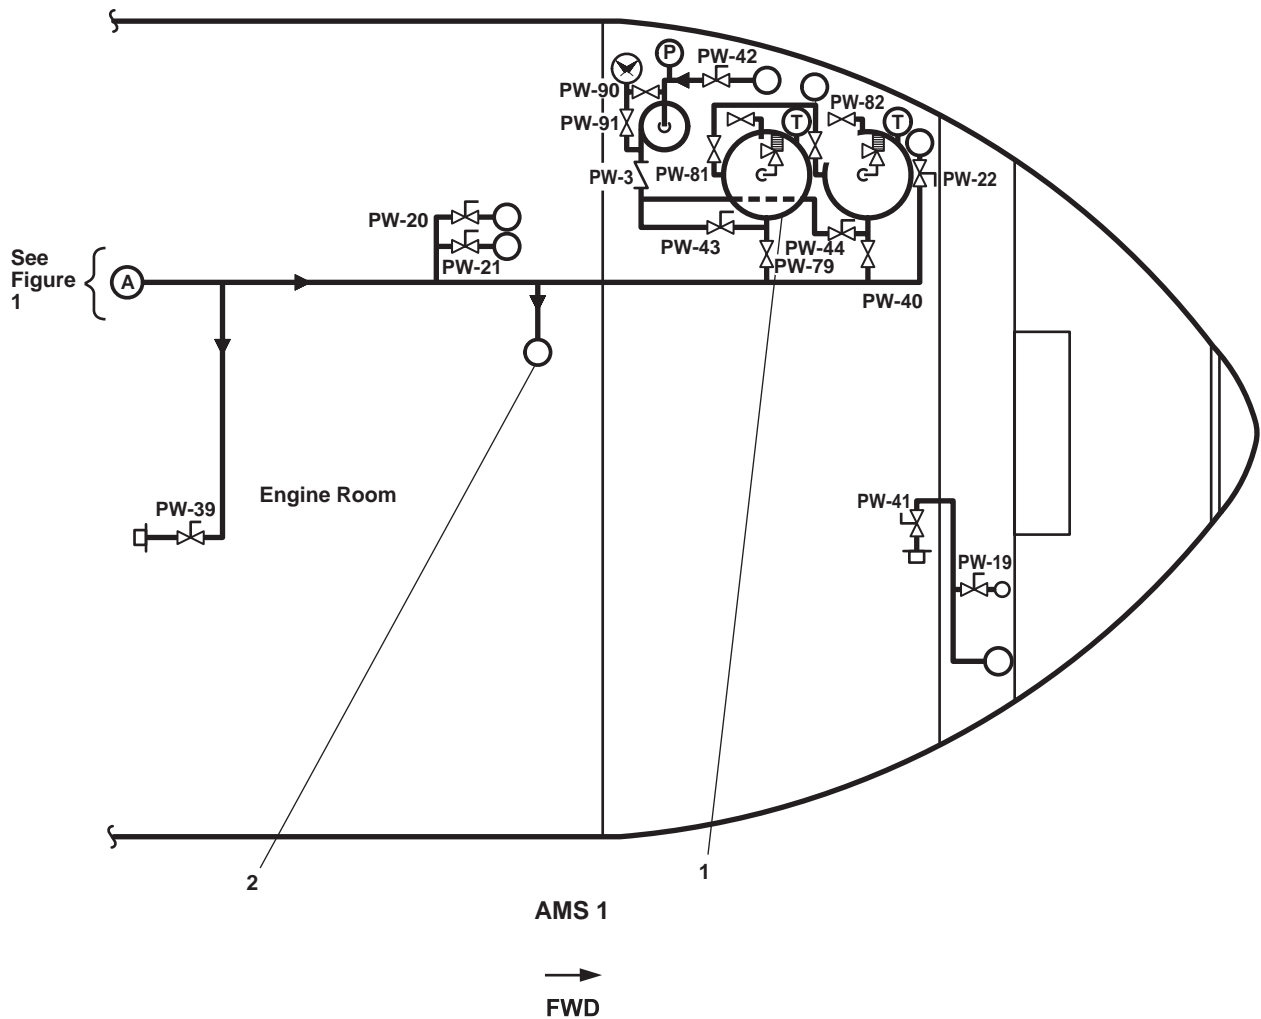
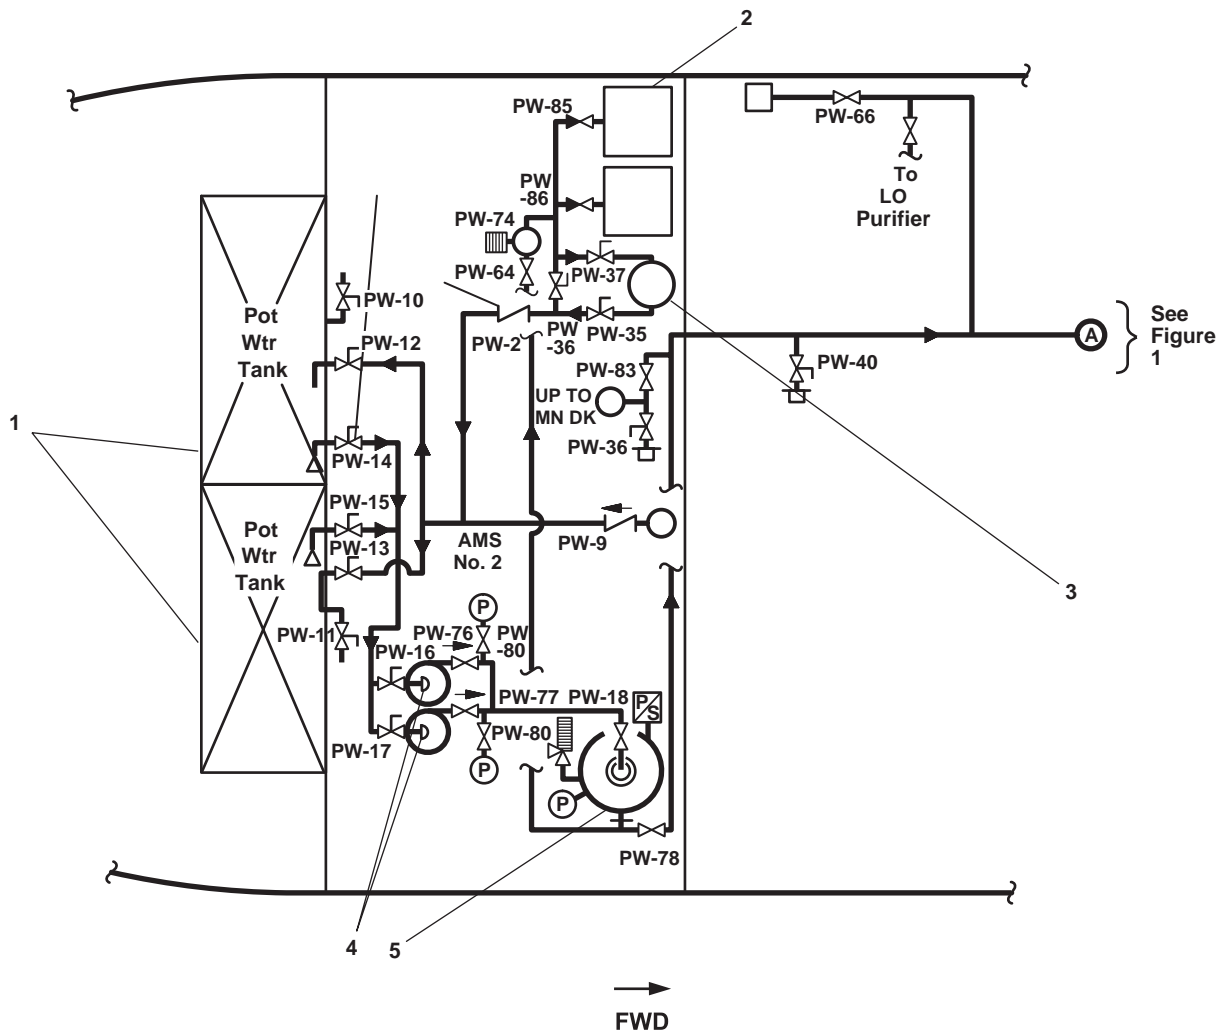
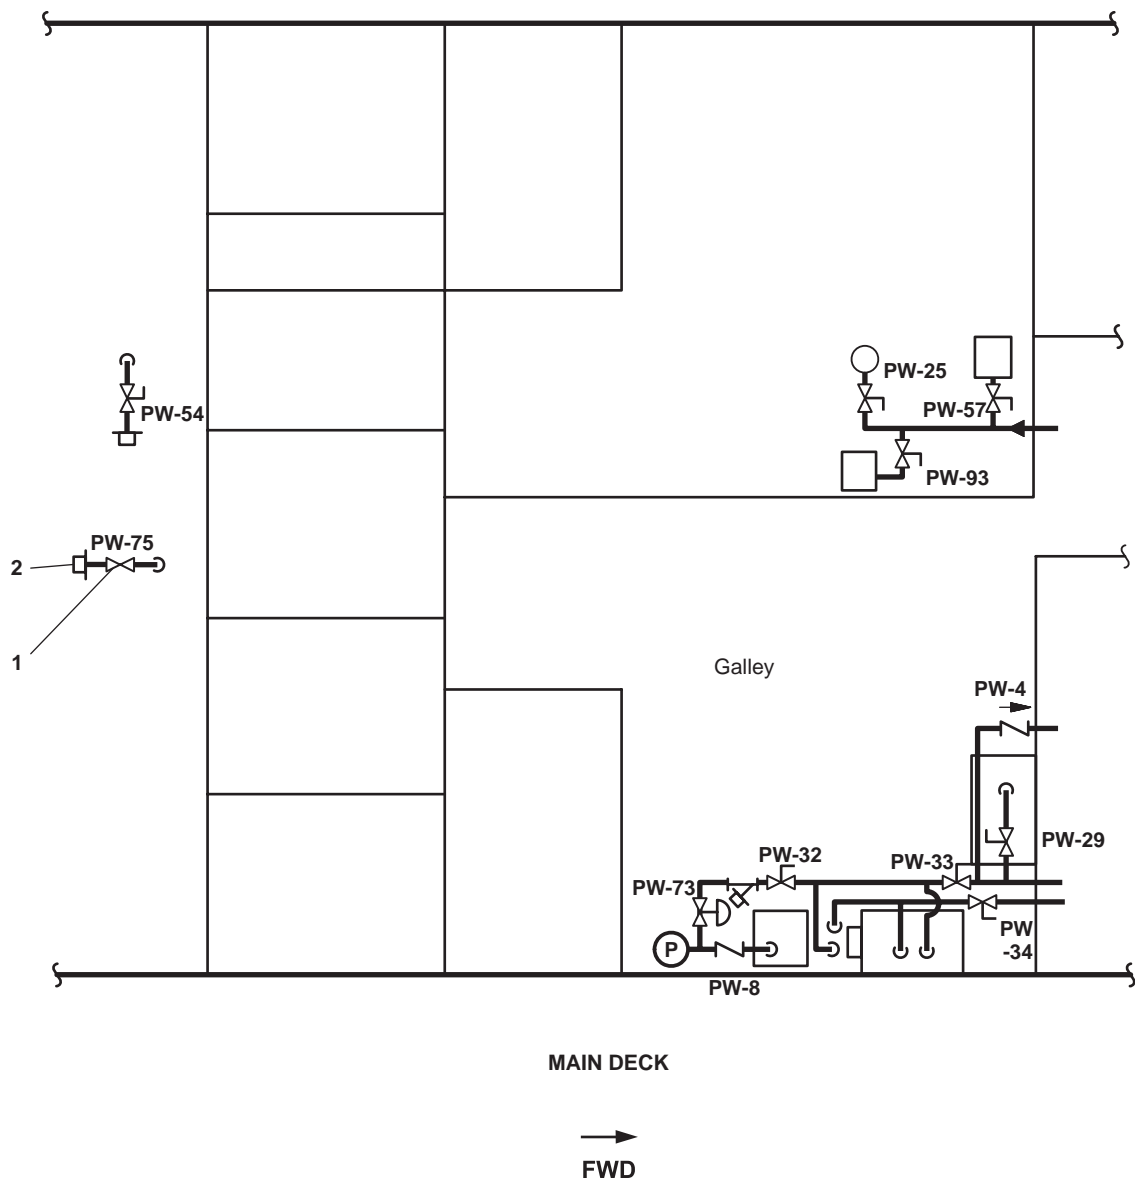

Figure 1. Potable Water System (AMS 1)
Figure 2. Potable Water System (AMS 2)
Figure 3. Potable Water System (Main Deck Galley)
The potable water system consists of two potable water tanks (figure 2, item 1), two reverse osmosis water purification units (figure 2, item 2), a proportioning bromine feeder (figure 2, item 3), two potable water pumps (figure 2, item 4) a hydropneumatic tank (figure 2, item 5) with pressure switches, two potable hot water heaters and a hot potable water recirculating pump (figure 1, item 2).
Two potable water tanks (figure 1, item 1) (port and starboard) are mounted in a watertight void between frames 14 and 25. The potable water tanks are used to store potable water. These tanks have fill connectors and a piping vent on the main deck. The potable water tank levels are monitored by Tank Level Indicators (TLIs) located in AMS 2 and the EOS.
The fill connectors (figure 3, items 1 and 2) allow the potable water tanks (figure 2, item 1) to be filled from an external source of treated water.
The proportioning bromine feeder (figure 2, item 3) treats potable water by adding a predetermined quantity of bromine to
disinfect the water (ensure that the water supplied to the potable water tanks is bacteriologically safe for human consumption) as the water is being discharged from the reverse osmosis water purification units (figure 1, item 1) to the potable water storage tanks (figure 2, item 1). The quantity of bromine added depends on the raw water intake to the reverse osmosis water purification units (figure 2, item 2). If the raw water is considered non-contaminated, a low feed rate is used. If the raw water is considered contaminated, a high feed rate is used. The feed rate is manually selected. The bromine feeder also injects bromine as water recirculates to and from the potable water tanks.